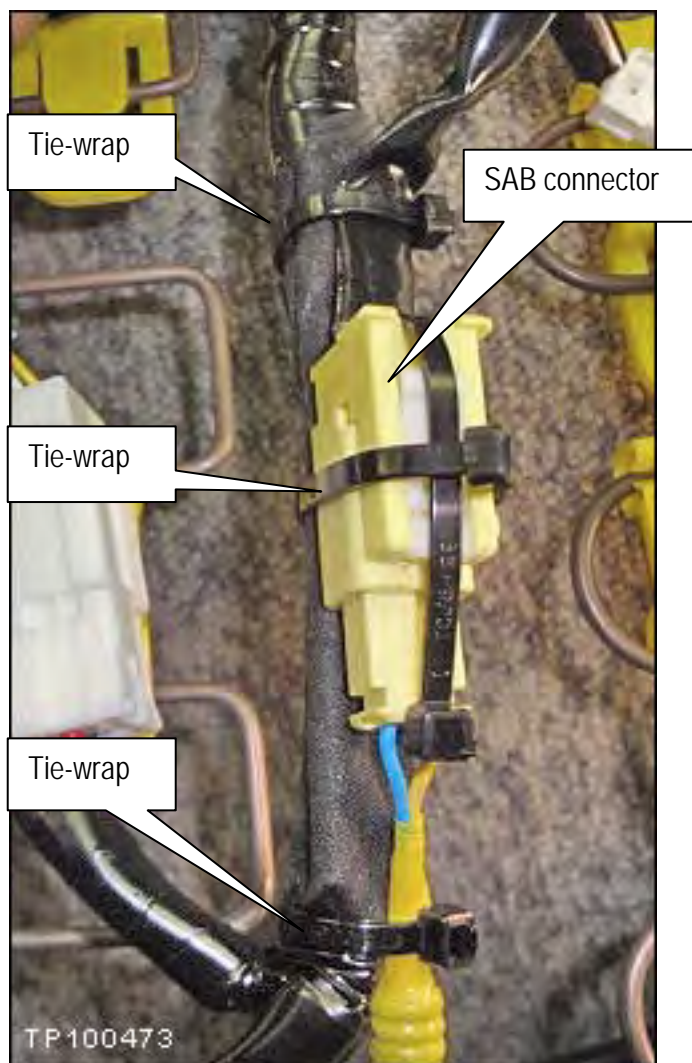

Figure 2c
4. Cut and remove the 3 tie-wraps shown in Figure 2c.